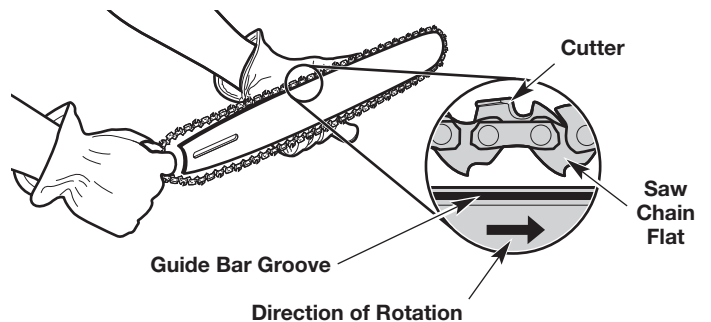
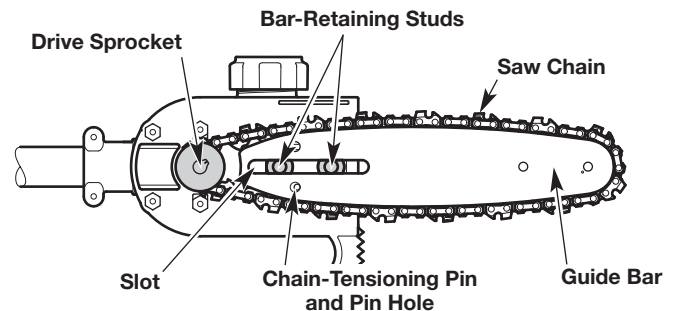

Fig. 11
Fig. 12
3. Fit the saw chain into the guide bar groove (Fig. 11). Make sure the cutters point in the correct direction of rotation (Fig. 11). Keep a loop of saw chain at the back end of the guide bar (Fig. 11).
4. Hold the saw chain and guide bar together in position over the unit. Loop the saw chain around the drive sprocket and install the guide bar onto the bar-retaining studs (Fig. 12). Make sure the guide bar is flush against the mounting surface. Make sure the flats on the saw chain are in the grooves on the drive sprocket (Fig. 11 & Fig. 12). Make sure the chain-tensioning pin is in the pin hole on the guide bar (Fig. 12).
6. Install the bar cover. Tighten the screw and two (2) bar-retaining nuts.